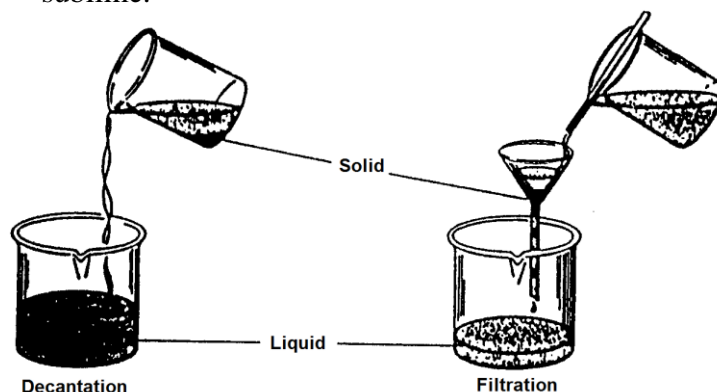

Figure 3.1 Description of the processes of decantation and filtration.
1. *Decantation*: This is the process of separation of a liquid from a solid (sediment) by gently pouring the liquid from the solid so as not to disturb the solid (see **Figure 3.1**).
2. *Filtration*: This is the process of separating a solid from a liquid by means of a porous substance, a filter, which allows the liquid to pass through but not the solid (see **Figure 3.1**). Common filter materials are papers, layers of charcoal, and sand. Silt and sand can be removed from our drinking water by this process.